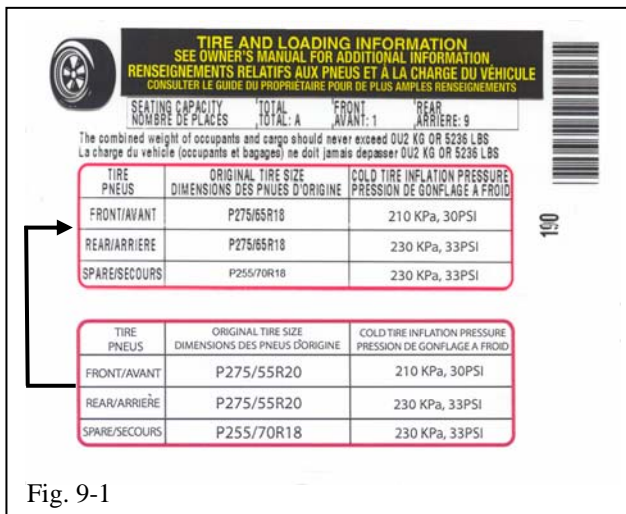

Fig. 9-1
- (b) Align the 20” wheel tire pressure label over the tire size of the OE label (Fig. 9-1).